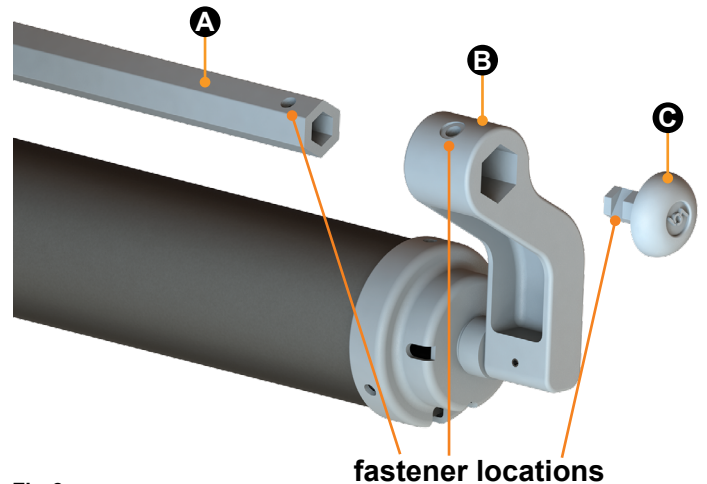
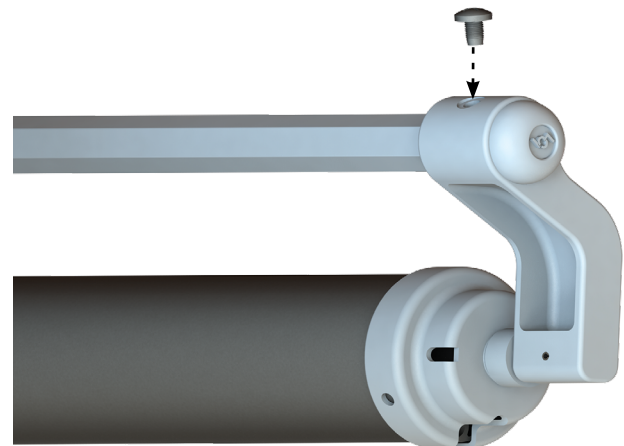

Fig.2
Fig.3
1. Slide the extension rod (Fig.2A) into the spring head assembly torsion arm (Fig.2B), aligning the fastener locations (Fig.2).
2. Slide the spring head assembly torsion arm end cap (Fig.2C) into the extension rod (Fig.2A), aligning all three fastener locations (Fig.2). Fasten using the provided 1/4" - 20 x 5/8" slotted pan head, self-tapping screw (Fig.3).
8. Secure the second extension rod to the spring head assembly torsion arm using the provided 1/4" - 20 x 5/8" slotted pan head, self-tapping screw (Fig.3).